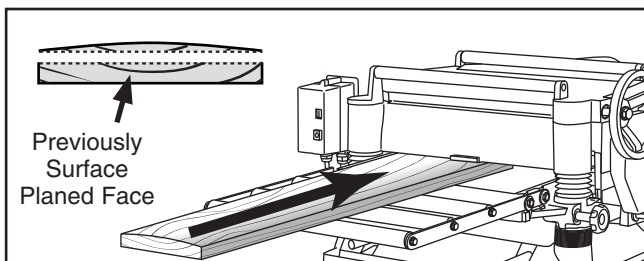

Figure 34. Surface planing on a thickness planer.
2. **Surface Plane on a Thickness Planer:** The opposite face of the workpiece is surface planed flat with a thickness planer (see **Figure 34**).